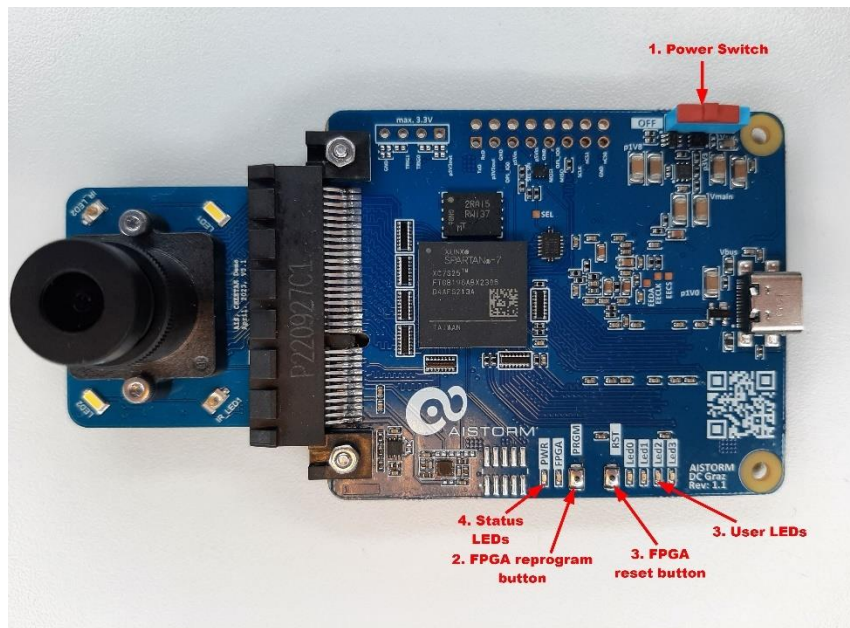

Figure 1-1: Picture of the Cheetah Connect PCB
- Cheetah Connect PCB (see Figure 1-1)